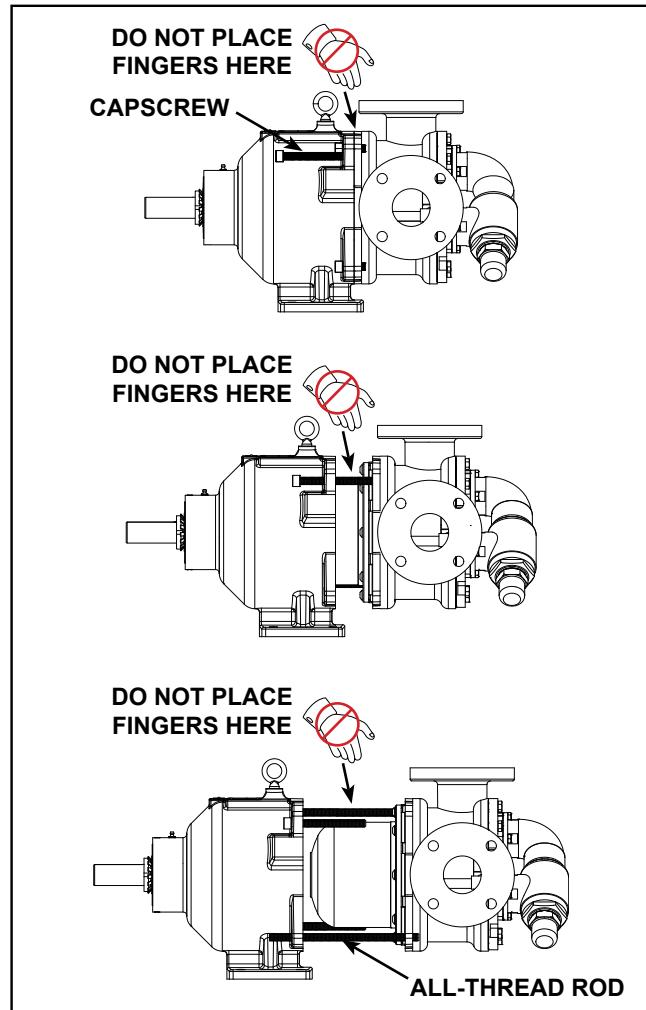

FIGURE 7
3. Mark the head (40) and casing (31) before disassembly to insure proper reassembly.
4. To inspect the head and pin assembly (39 and 40) and idler and bushing assembly (37 and 38), remove the head capscrews (43).
5. Remove the head from the pump. If the casing was not drained in Step 1, be careful of the liquid draining out between the head and casing. Do not allow the idler to fall from the idler pin. Tilt the top of the pump head back during removal to prevent this. Avoid damaging the head shim set (63) since all shims are required to maintain end clearance.
7. Remove the four socket head capscrews (28) securing the pump to the bracket. Support the pump with an overhead hoist, if possible.
8. Use the jackscrews (14) in the bracket to separate the inner magnet (57) from the outer magnet (58), see sequence in Figure 7. To keep the pump and bracket assemblies properly aligned and for additional safety, it is recommended to use 2 lengths of all-thread rod (6-8") threaded into diagonal capscrew locations in the adaptor plate and slide through the corresponding holes in the bracket.